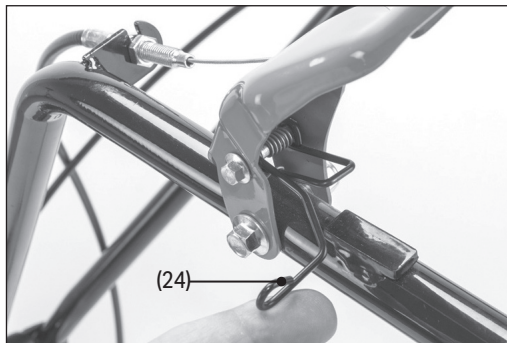

Fig. 20
The clutch lever (3) engages the power from the engine to the transmission (Figs. 20 and 21).